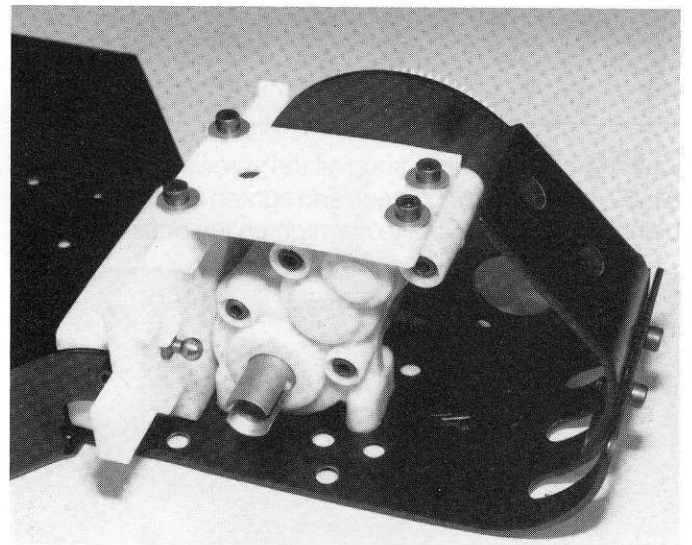

**Fig. 82**
□ **Figs. 82 & 83** From Bag 7-4, take the #6325 transmission brace and install it on the transmission and rear bulkhead, as shown. Leave the 4-40 x 5/16" SHCS screws fairly loose with the #4 flat washers.